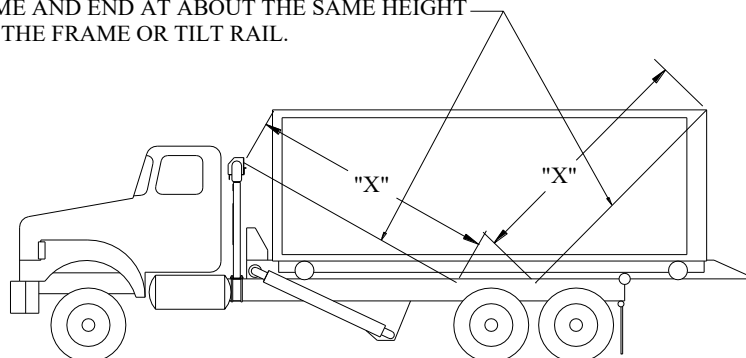

Figure 2
2) Measure from the back of the container to the frame using the same measurement as the first. Make a mark. Refer to Fig. 2 below.